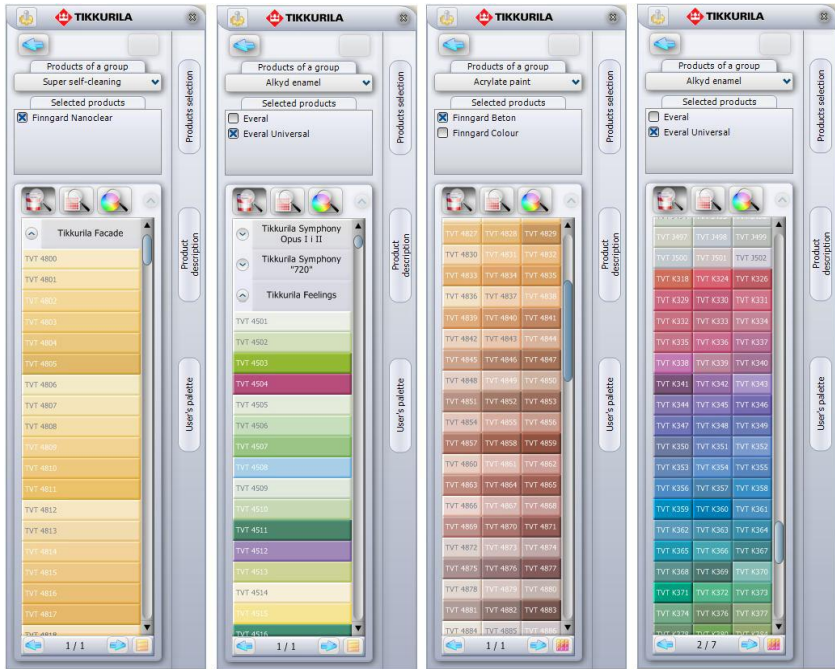

Fig. 227 – examples of available ways of displaying colours
- Colours are displayed in a form of a vertical panels with codes, appearing under the name of each **Colour Card** the selected product is available in (Fig. 227);
- The view of the closed **Cards** is shown on the second picture from the left in the illustration presented below (Fig. 227);